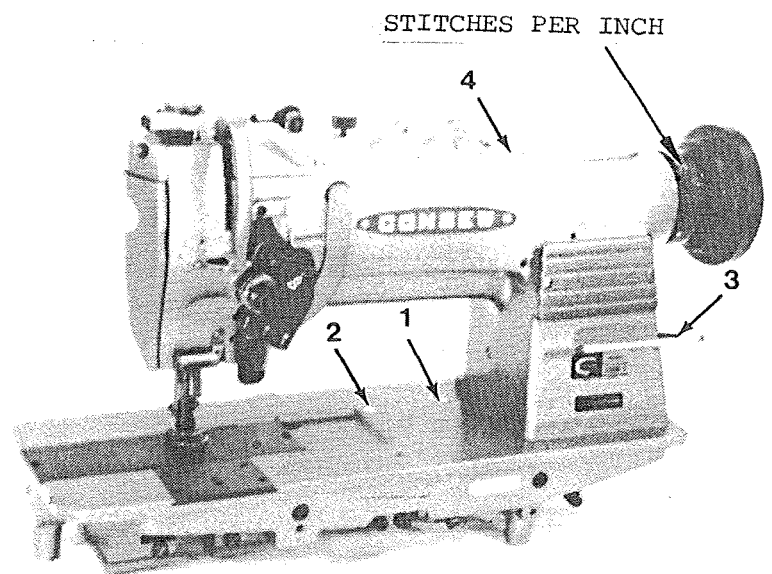
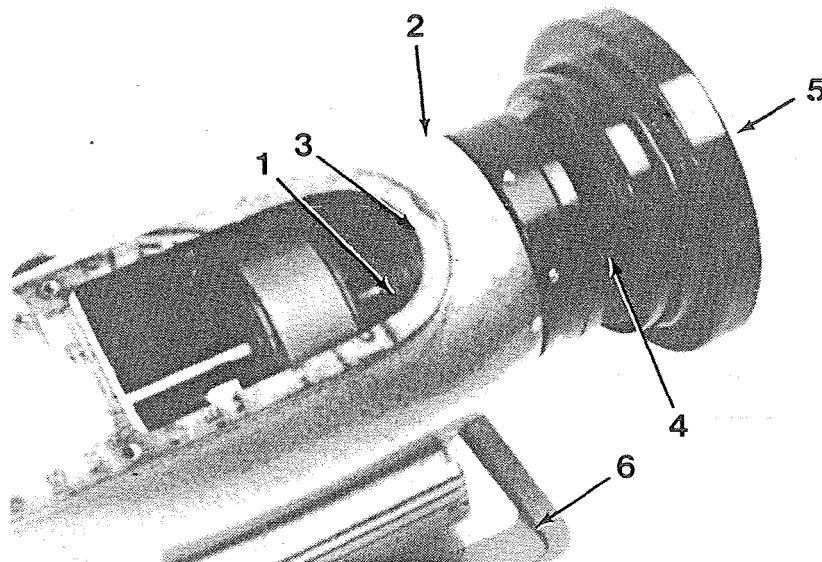
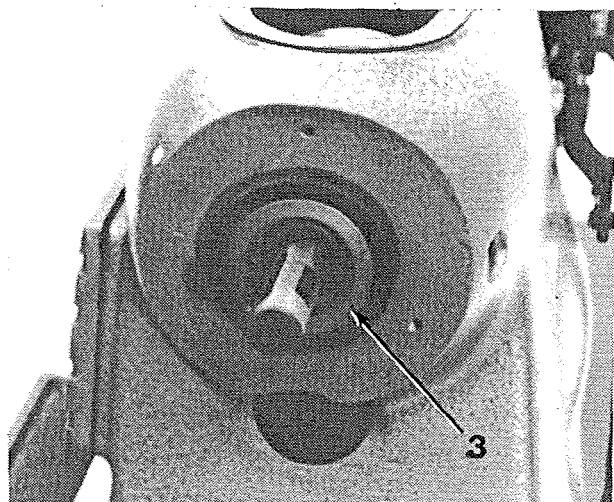

FIG. 16
FIG. 23
FIG. 22
ADJUSTING THE STITCH LENGTH (Fig. 16)
The stitch length is changed by pressing down button 2, Fig. 16, in the bed plate of the machine and by simultaneously turning the handwheel slowly toward you.
HOW TO RE-SET THE SAFETY CLUTCH MECHANISM (Fig. 16)
The sewing hook and it's mechanism are protected by a safety clutch. In case the hook gets jammed with thread or other foreign matter, the safety device disengages the driving belt, stops sewing, and thus prevents the machine from getting damaged. If it should become necessary to re-engage the safty clutch, depress the button (1) Fig. 16 in the bed plate, at the same time, turn the handwheel away from you until the locking mechanism re-engages the drive shaft beneath the bed of the machine, open the slide plate above the hook and rock handwheel back and forth to remove any foreign matter which may have lodged in the hook.
Remove the arm top cover (4, Fig. 16) and remove the timing belt from the belt pulley, loosen the collar set screw (1, Fig. 23).
Loosen the two set screws (4, Fig. 23) for the hand pulley and remove the handwheel. Adjusting screw (5, Fig. 23), draw out the handwheel from the arm shaft.
Loosen the arm shaft rear bushing set screw (2, Fig. 23), pull out the rear bushing (3, Fig. 22) from the arm hole.
In case of the machine with reverse stitch mechanism, draw out the reverse lever (6, Fig. 23) with its shaft.